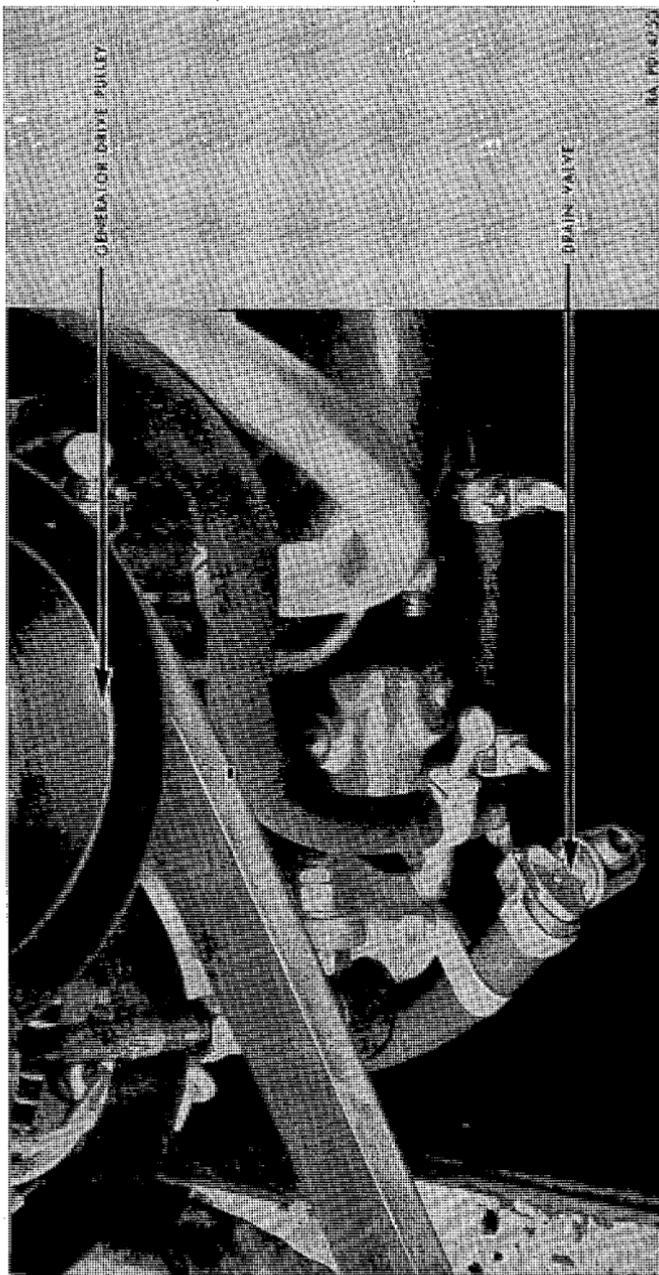

FIGURE 10.—Inlet manifold drain valve for Guiberson T-1020, series 4.
(1) Normal oil pressure is 60 to 90 pounds.
(2) Normal oil temperature is 100° F. to 170° F.
b. If the drain cock on the inlet manifold is open, close it. If the cock is closed, open it and permit all of the oil in the inlet manifold to drain out before closing it (see fig. 10).
c. Important points to remember.—(1) Engine must be operated for at least 30 minutes when started following a shut-down on diluted oil.
(2) Engine must be shut-down immediately after dilution.
(3) Dilution time greater than 210 seconds must not be used.
b. If an unavoidable stop occurs during high speed operation, place the throttle lever on decompression, open drain cock (fig. 10), and turn the engine by hand through two or three revolutions before attempting to start the engine. This is to prevent damaging the engine due to an oversupply of oil between piston and cylinder head in cylinders five and six.